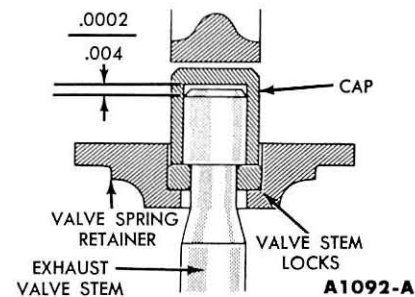

FIG. 24—Free Turning Valve Clearance
1. On the exhaust valves of the HD V-8 engine, measure the clearance between the end of the valve stem and the inside of the cap (Figs. 24 and 25). The correct clearance is 0.0002-0.004-inch. The proper clearance is necessary so that the cap can